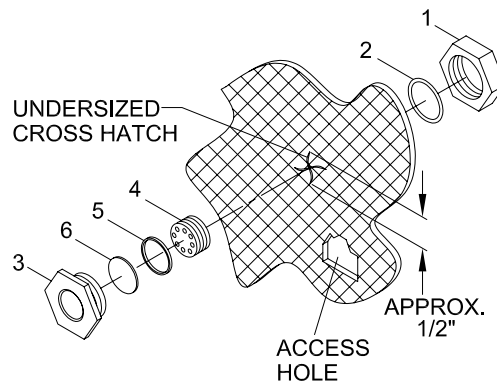

Figure 8. Humidity Card Installation in Barrier Wrap
- a. Cut an undersized cross hatch (figure 8) through barrier wrap (approx. 1/2 in. long).
- c. Remove outer nut (figure 8, item 1) and gasket (figure 8, item 2) from observation window (figure 8, item 3).
- d. Remove lockscrew (figure 8, item 4) from inside of observation window (figure 8, item 3).
- e. Remove lockscrew (figure 8, item 4) and teflon spacer (figure 8, item 5) from observation window (figure 8, item 3).
- f. Place humidity indicator card (figure 8, item 6) down inside the observation window (figure 8, item 3) with text facing down. Ensure rubber seal immediately beneath the indicator card (figure 8, item 6) and the transparent window beneath the seal are properly aligned in the observation window.
- g. Position teflon spacer (figure 8, item 5) on top of the indicator card (figure 8, item 6).
- h. Thread lockscrew (figure 8, item 4) into observation window (figure 8, item 3), compressing the teflon spacer (figure 8, item 5) and indicator card (figure 8, item 6) against the rubber seal and transparent window. Tighten lockscrew (figure 8, item 4).
- i. Carefully insert the assembled observation window (figure 8, item 3) through the undersized cross hatch for a snug fit.
- j. Holding the assembled observation window (figure 8, item 3) with one hand, reach through the access hole with the other hand and slide the gasket (figure 8, item 2) and outer nut (figure 8, item 1) onto the observation window (figure 8, item 3) threads.
- k. Snug the outer nut (figure 8, item 1) onto the observation window (figure 8, item 3).